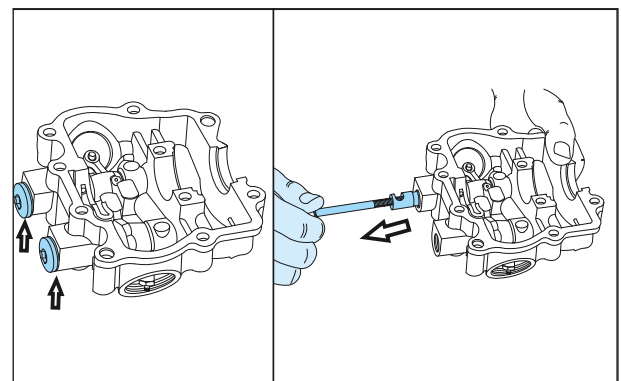

Fig. 3.50
- Loosen and remove both the plug rocker shafts (inlet & exhaust side) along with the gasket breather plug from the cover cylinder head. (Fig. 3.50)
- Screw in a M6 bolt in to the shaft rocker arm, gently pull out the shaft rocker arm from the cover cylinder head. ( (Fig. 3.50)